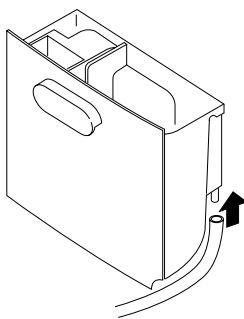

Fig. 2
- 4) Connect the hose and the spout (Fig.2)